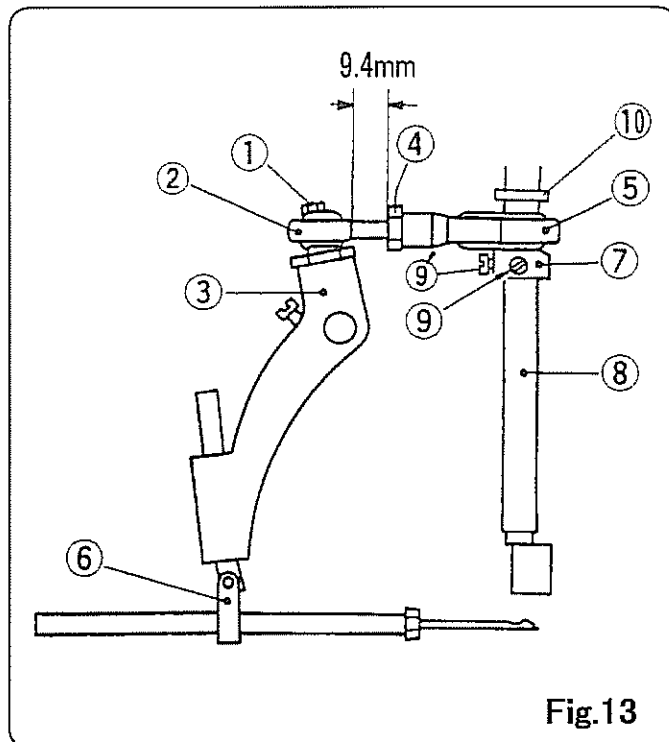

Fig.13
For replacement or adjustment of Ball Rod, refer to Fig.13. Take out Screw ① and disconnect Rod End ② from Needle Bar Lever ③. After loosening the Nut ④, adjust the clearance between Connecting Rod ⑤ and Rod End ②, so that Needle Bar moves in the center of the clearance between the upper and lower Presser Bar Bushings. (Needle Bar stroke is 37 mm).
The position of Needle is adjusted so that the distance between the point of Needle (at its highest position) and Throat Plate is 13 mm, after loosening screw on Needle Bar Connection Assembly ⑥ in Fig.13.
- ① Screw 11/64S40084
- ② Rod End 6A04001
- ③ Needle Bar Lever 242051A
- ④ Nut 1N8
- ⑤ Connecting Rod Assembly 242011A
- ⑥ Needle Bar Connection Assembly 242101A
- ⑦ Eccentric Cam (part of Connecting Rod Assembly) 242011
- ⑧ Main Shaft 241102
- ⑨ ⑨' Screw 11/64S40001
- ⑩ Spacer 241161